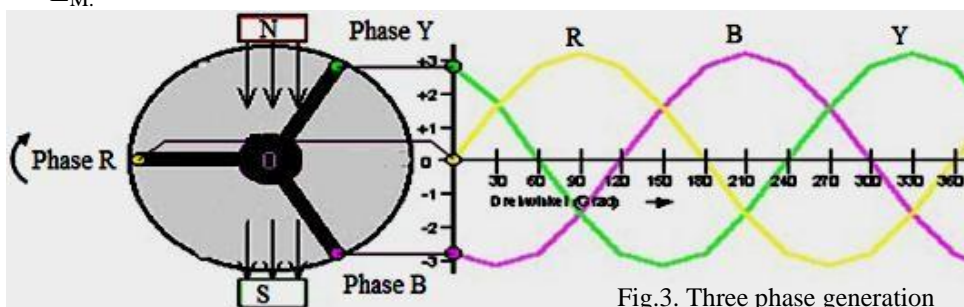

Fig.3. Three phase generation
- Here let us consider Phase R as reference phase. As we rotate the conductors in clockwise, phase RBY starts to rotate and induced emf in conductor R reaches from 0v, when force experienced by conductors are parallel to flux lines to maximum volts at 90° cutting perpendicular to flux lines as shown in fig.3.
- It can be said that phase Y reaches reference point after 240° seen from phase R side. Thus conductor Y moves above reference point after 240° as shown in above fig.3.